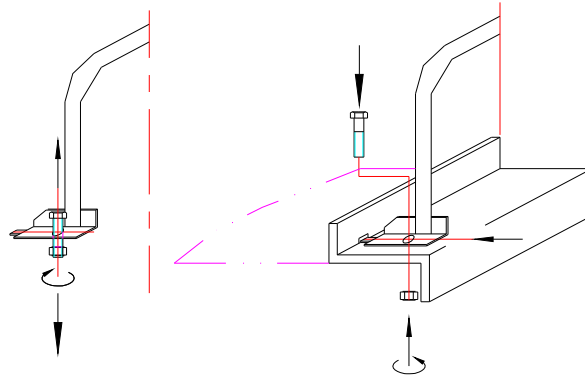

Figure 2
2. Assemble the handle (Part No.3-1) (see Figure 2);